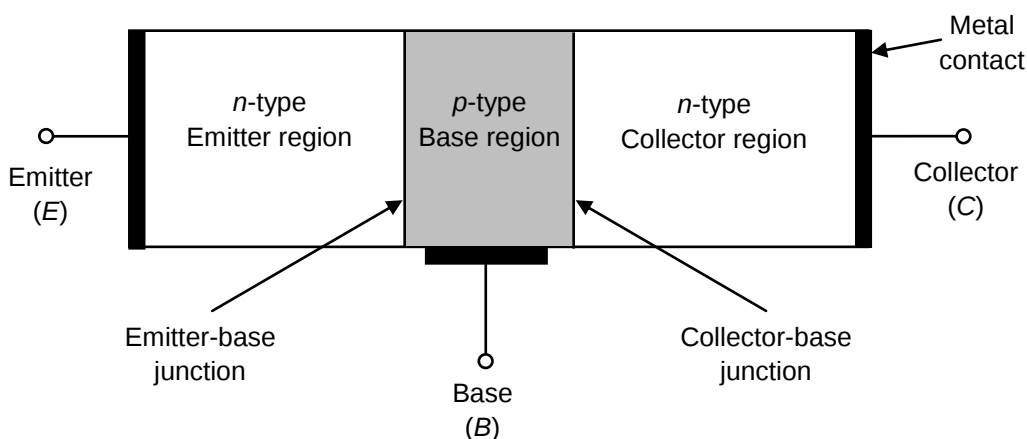

Fig. 3.2: Structure of an n - p - n transistor.
So, in a bipolar junction transistor, there are **three regions doped alternately** by n -type and p -type impurities to create an n - p - n or a p - n - p type of structure. Fig. 3.2 shows the structure of an n - p - n transistor.
The three regions (n , p and n) shown in Fig. 3.2 are called **emitter (E)**, **base (B)** and **collector (C)**, respectively. So, the BJT is a **three-terminal device** with the electrical contact terminals attached to the emitter, base and collector. Sometimes, this is indicated by the letters E, B and C marked on the transistor.
The emitter, base and collector regions in a transistor are doped differently and have different widths. The emitter is doped heavily because its role is to 'emit' or inject charge carriers into the base region. The base region is lightly doped and is made very thin so that the heat loss due to recombination of charge carriers in it is reduced. The collector's doping levels lie between those of the emitter and the base. The collector is the largest of the three regions because it collects the charge carriers and has to dissipate more heat than the emitter or base. As you can see in Fig. 3.2, the transistor has two p - n junctions – one p - n junction is between the emitter and the base and the other p - n junction is between the base and the collector:
- Draw a labelled diagram showing the structure of a p - n - p transistor in the manner shown in Fig. 3.2 for an n - p - n transistor.